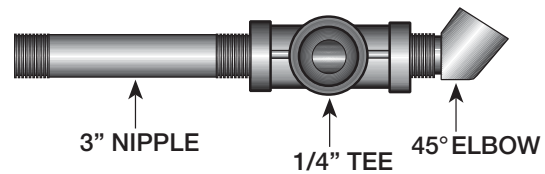

Fig. 4-a
- A. Remove the six allen head screws on top of the fuel management unit (FMU). (See Fig. 4-e.)